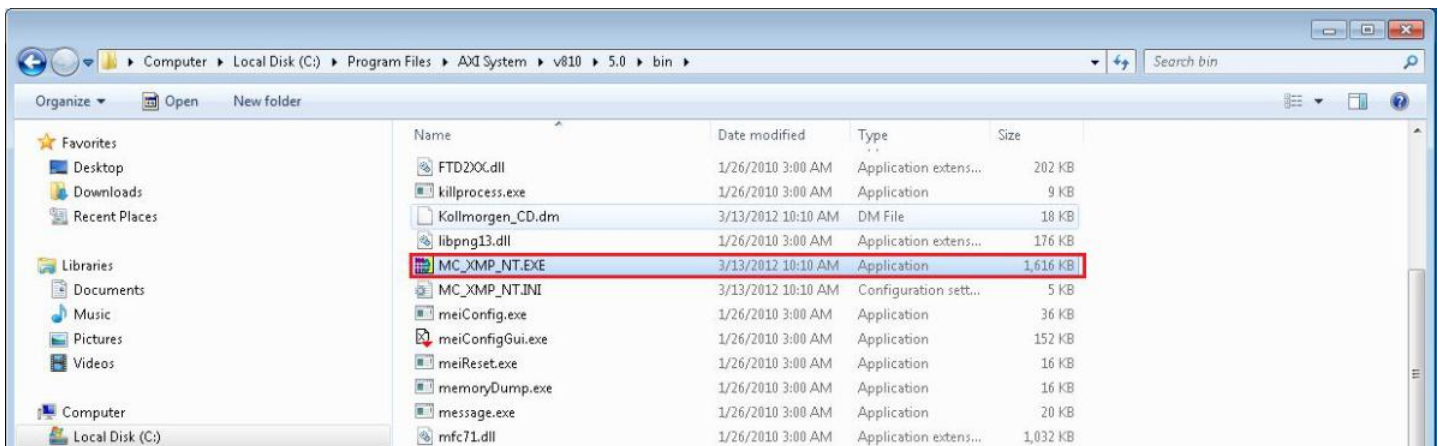

Figure 13 MC_XMP_NT.EXE
23. Go to the following directory: C:\Program Files\AXI System\v810\REV\bin and open the MC_XMP_NT.EXE as shown in Figure 13.